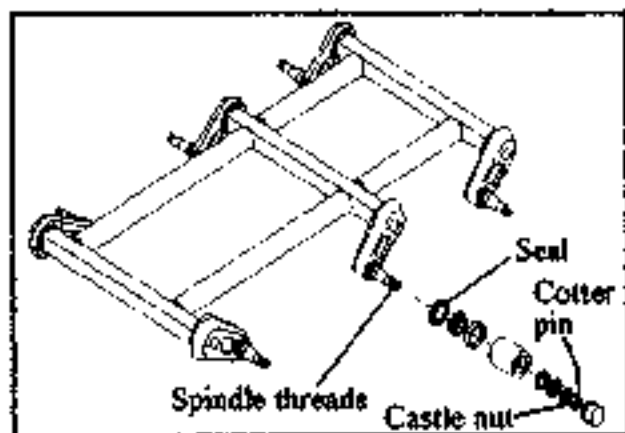

FIG 41
- 6) Remove the cotter pins and castle nuts from the front and rear axles. See FIG 41.